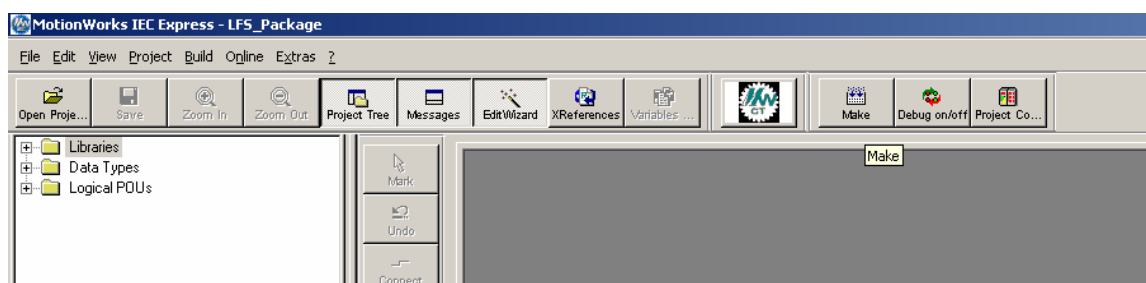

Figure 2: Make
- IV. Make the project (Fig 2)